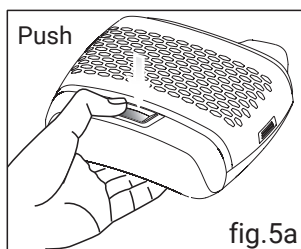

fig.5a
- Press the button and remove the battery according to the direction shown in Fig. 5a / 5b / 5c.